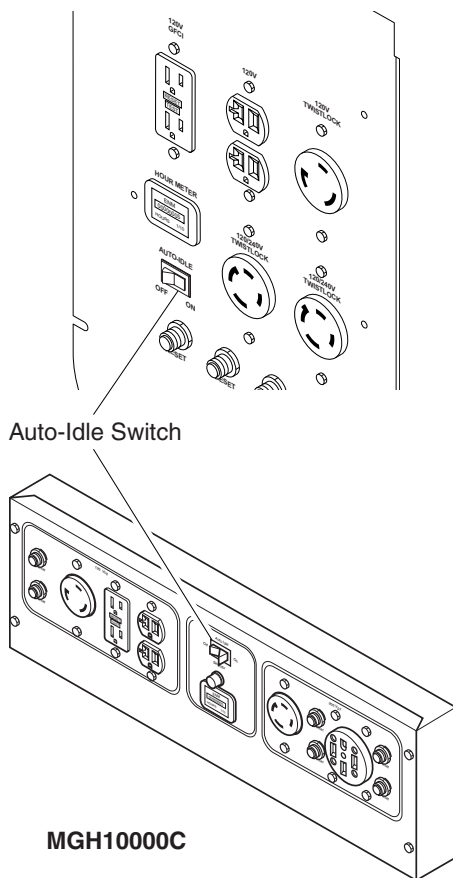

Figure 19 - Control Panel
1. If engine is cold, turn the Auto-Idle switch OFF (see Figure 19).
Note: MGH10000C Only - The 250 Volt/50 Amp receptacle is not connected through the Auto-Idle circuit. The Auto-Idle switch must be turned off to get full power out of this receptacle (see Figure 19).